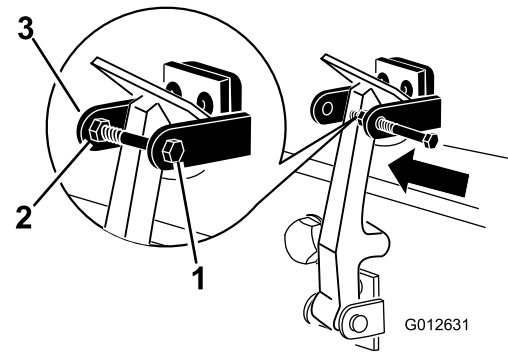

Figure 6
- Install the bolt into the other arm of the hood-latch bracket to lock the latch in position (Figure 6). Tighten the bolt but do not tighten the nut.